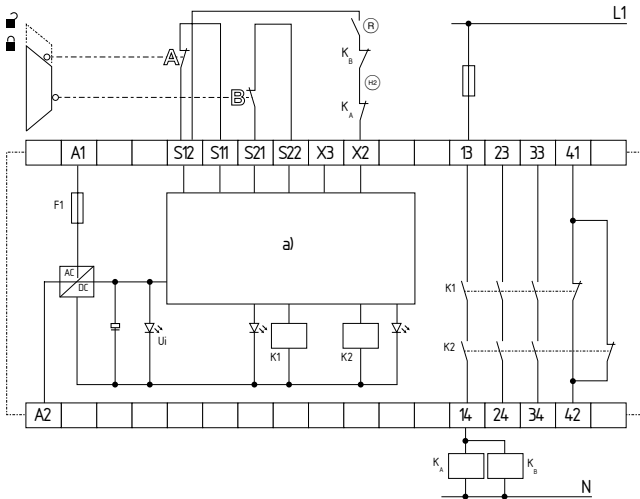

Fig. 2
**Dual-channel control, shown for a guard door monitor with two position switches A and B where one has a positive break contact; with external reset button  $\text{\textcircled{R}}$  (Fig. 2)**